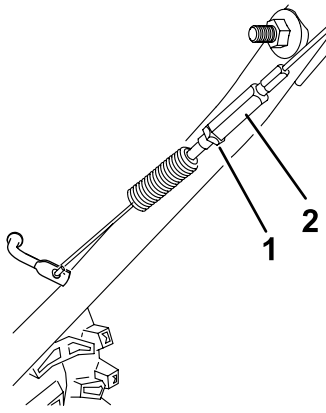

Figure 37
5. Loosen the jam nut (Figure 37).
6. Loosen or tighten the turnbuckle that adjusts the tension on the cable (Figure 37).